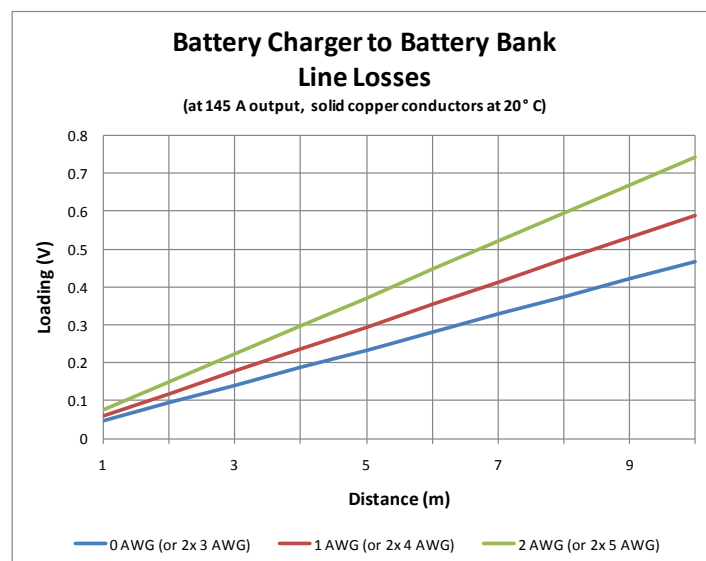

Figure 4 - Line Losses
- The distance between the battery charger and batteries, as well as the battery charger and generator must be minimized to reduce power losses in the lines connecting them. The minimum gauge of wire to use for each battery terminal connection is either a single 2 AWG (diameter = 6.54 mm) conductor or 2 parallel 5 AWG (diameter = 4.62 mm) conductors. Use the graph in Figure 4 to determine the expected losses for a given distance between battery charger and battery bank for a given wire gauge. For specifics on generator to battery charger line losses please consult the generator installation guide. **It is important that the appropriate wire gauge is selected for minimal line loss from battery charger to battery bank, allowing for accurate battery bank voltage measurements. Inaccurate voltage measurements may cause abnormal behaviour of the charging algorithms and/or damage to the battery bank.**